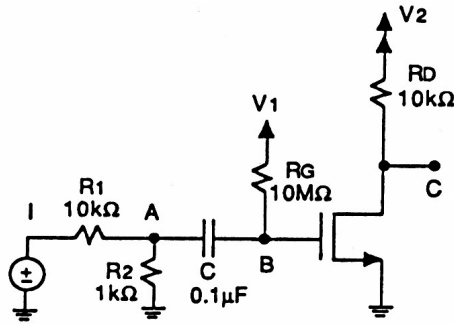

Figure 4: A simple grounded-source amplifier topology.
For a transistor for which  $V_t = 0.90$  V,  $k_n = \mu_n C_{ox}(W/L)_n = 0.6$  mA/V2, in the circuit of Fig. 4, calculate the values of  $V_1$  and  $V_2$  required to provide  $i_D = 0.1$  mA with  $v_{DS} = 5$  V.
We are now going to explore basic amplifier functions, properties and parameters using the circuit of Fig. 4. While this is not an appropriate amplifier topology for most applications, it has the advantages in the present context of simplicity with adaptability. The voltage  $V_1$  is a dc supply whose role it is to adjust the dc component of  $v_{GS}$  and hence the dc value of  $i_D$ . The voltage  $V_2$  is a second dc supply with which one can control the dc value of  $v_{DS}$ , once the value of  $I_D$  is established. Capacitor  $C$  isolates the dc level at node B, but is large enough (compared to the resistance level at B) to represent a short-circuit for signals in the frequency range of interest.
- **Setup:** Assemble the circuit of Fig. 4 using the 345 NFET (the one whose pins are 3,4,5) with substrates connected to ground and  $V_2$  appropriately.
- **Setup:** Use the circuit of Fig. 4 with  $V_2 = 15$  V and  $V_1$  adjusted so that  $V_C = 5$  V, and a 0.1 Vpp triangle wave at 1 kHz applied to node I.